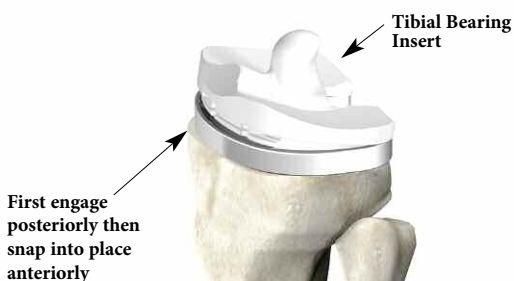

Figure 85
- ▶ Snap the insert in place anteriorly (**Figure 85**). Hand pressure or a light tap with a mallet is required. The tibial bearing insert is fully seated once the metal retaining wire locks under the barbs on the anterior, interior surface of the wall.